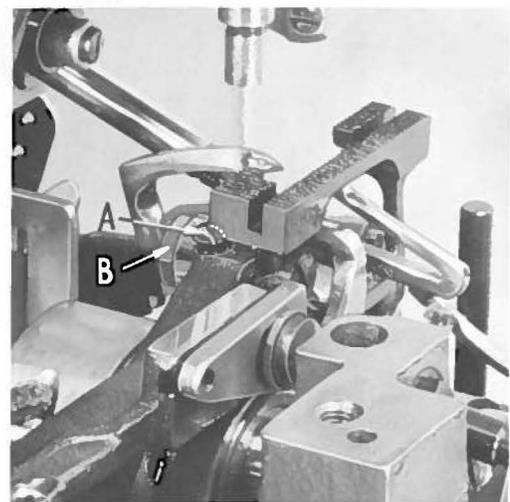
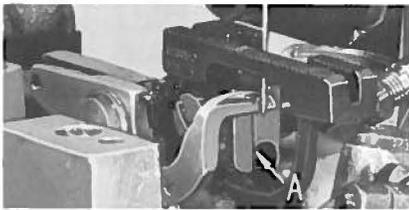

Fig. 8
Fig. 9
Set the feed dog (A, Fig. 7) in the throat plate (B) so there is equal clearance on all sides and that the tips of the teeth are parallel with and project $\frac{3}{64}$ inch above the throat plate at high point of travel. Adjust the supporting screw (A, Fig. 8) under the feed dog to maintain this setting. Screw (C, Fig. 7) is used to
If feed dog teeth are not parallel with the throat plate, loosen nut (B, Fig. 8) and turn screw (A, Fig. 9) clockwise to lower the front teeth, and counterclockwise to raise the front teeth. Retighten nut when feed dog is set properly.